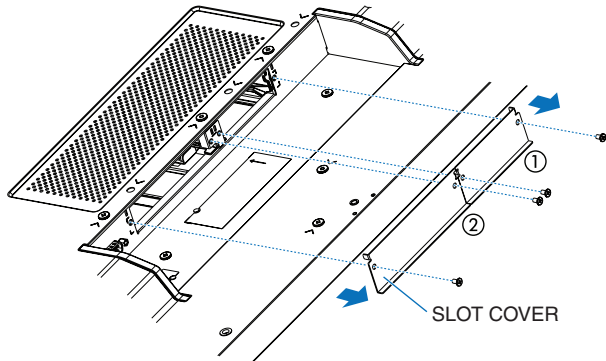

Figure 1
Remove SLOT COVER ① and ② (Figure 1).